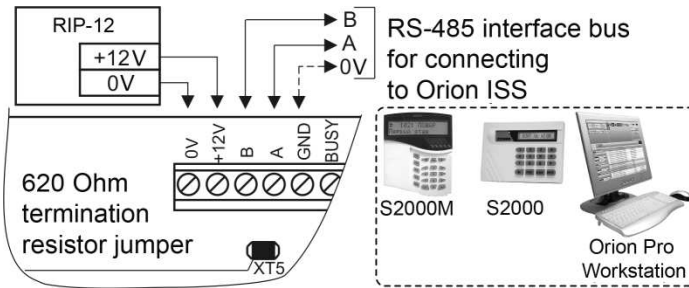

Figure 4. The Schematic for Connecting the S2000-2 to the RS-485 Interface Bus
4.1.2 If the controller, the panel or another Orion system devices connected to the RS-485 interface are powered by various power supplies then link the GND terminal of the controller with 0 V circuits of the devices (see Figure 4).
4.1.3 Unless the controller is the first or the last device in the Rs-485 interface bus remove the jumper located on the controller PCB (see Figure 4).